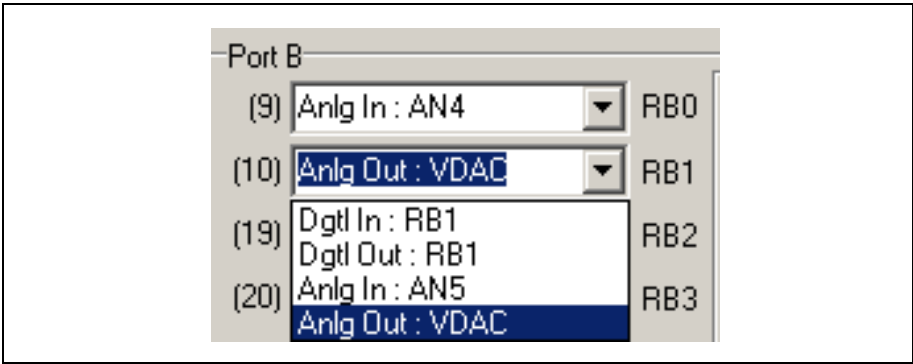

Figure 3.2: Enabling the VDAC Output
4. Using the drop-down menu of RB1, select the Anlg Out:VDAC option and press <Enter>, as shown in Figure 3.2.
The Evaluation Board software has built-in safeguards against performing certain functions out of sequence, or executing functions with missing parameters. For example, if you were to click the Arbitrary Waveform button (shown above) at this point in the configuration, you see the following warning message, shown in Figure 3.2: